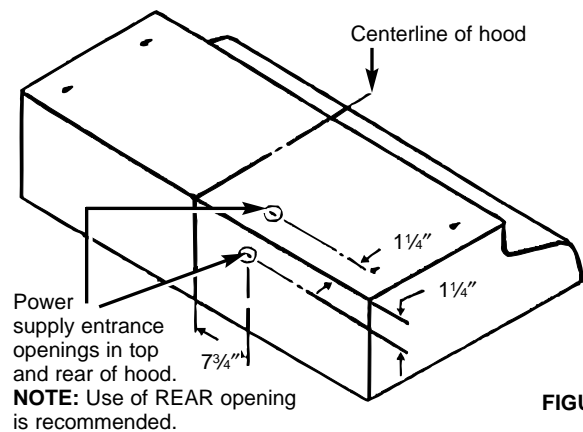

FIGURE 8
D. USE OF OPTIONAL TOP POWER SUPPLY: The power supply can be attached through the top knockout if desired, but only the top or back knockout shall be opened (See Figs. 8, 9 and 10).